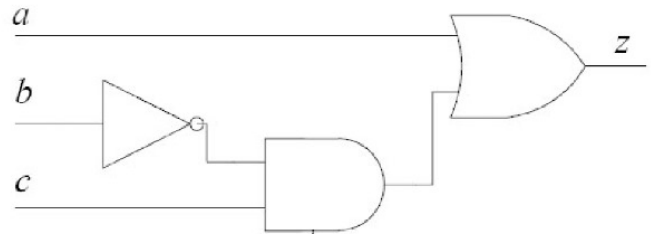

Fig. 3.21: circuit diagram
38. Consider the boolean Function  $z(a,b,c)$  from below Fig. 3.21.